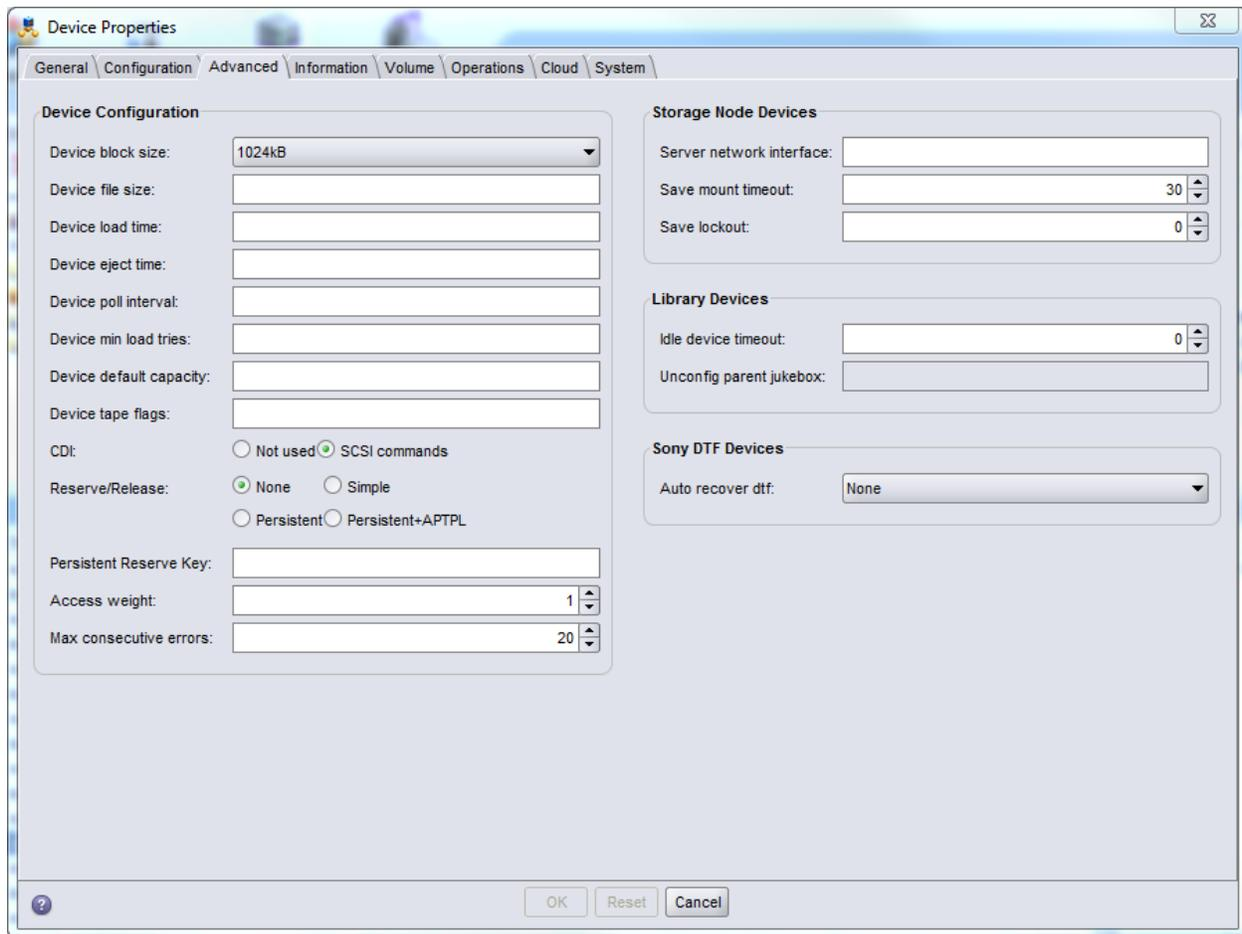

Figure 21: NetWorker Device Properties - Advanced tab.
- 6) Set the Device block size setting using the drop-down menu. (See figure 21):